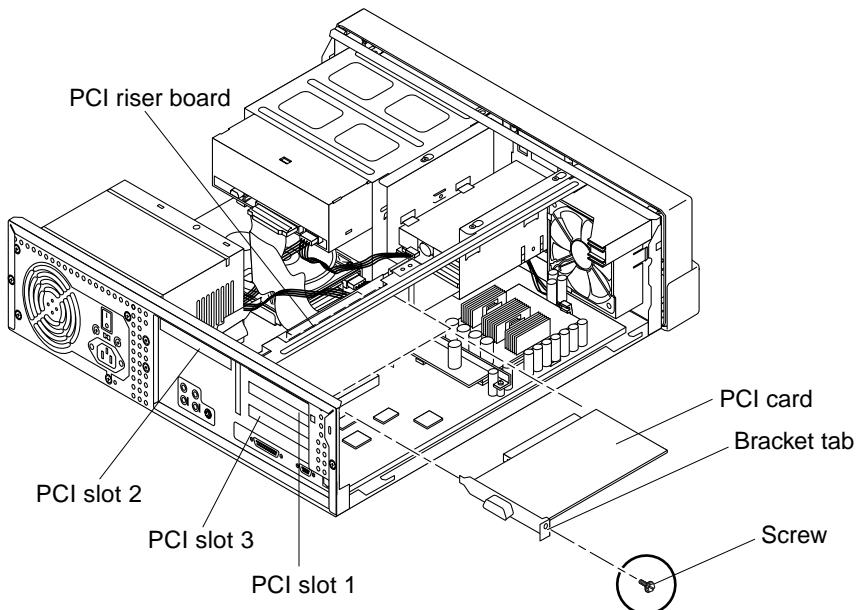

FIGURE 8-4 Removing and Replacing a PCI Card From PCI Slot 1 or 3
3. Remove the PCI card from PCI slots 1 or 3 as follows (FIGURE 8-4):
2. Replace the PCI card into PCI slot 1 or 3 as follows (FIGURE 8-4):